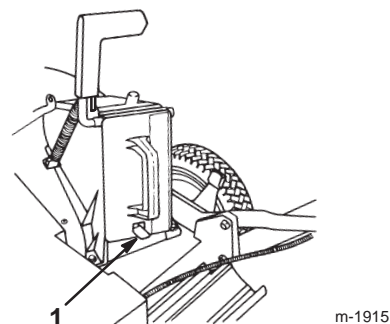

Figure 7
- Push the plug all the way in until the spring clip on the bottom of the plug clicks into place, locking the plug securely into the discharge tunnel (Fig. 7).